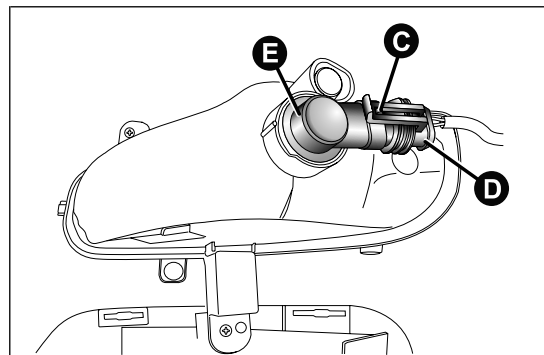

fig. 127
- ☐ adjust the catch C fig. 127 and disconnect the electrical connector D;